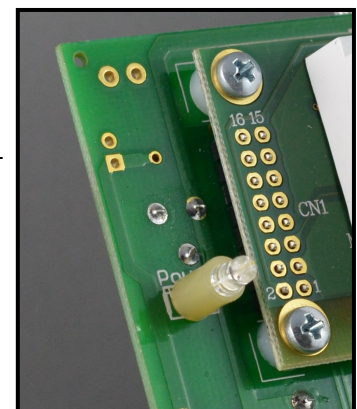

Figure 11d. Power LED
- Repeat with the two green LED's the installation for POWER and ONLINE. (Figure 11c. & Figure 11d).